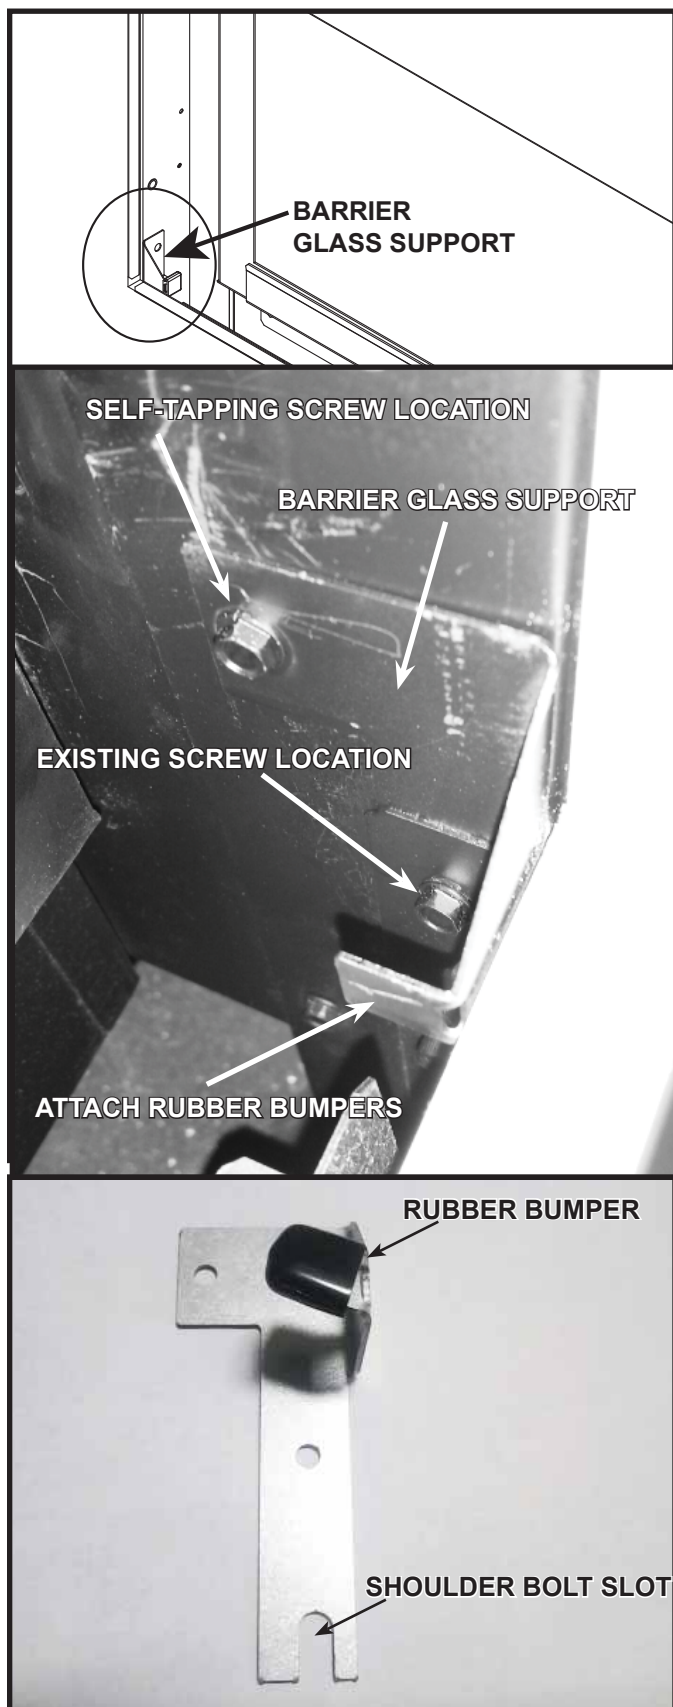

Figure 10.12 Install Barrier Glass Supports
6. Install barrier glass supports on bottom left and right sides using an existing screw, a self-tapping screw, and shoulder bolt. See Figure 10.12 and 10.13. Install rubber bumpers as shown in Figure 10.12 to protect the barrier glass.